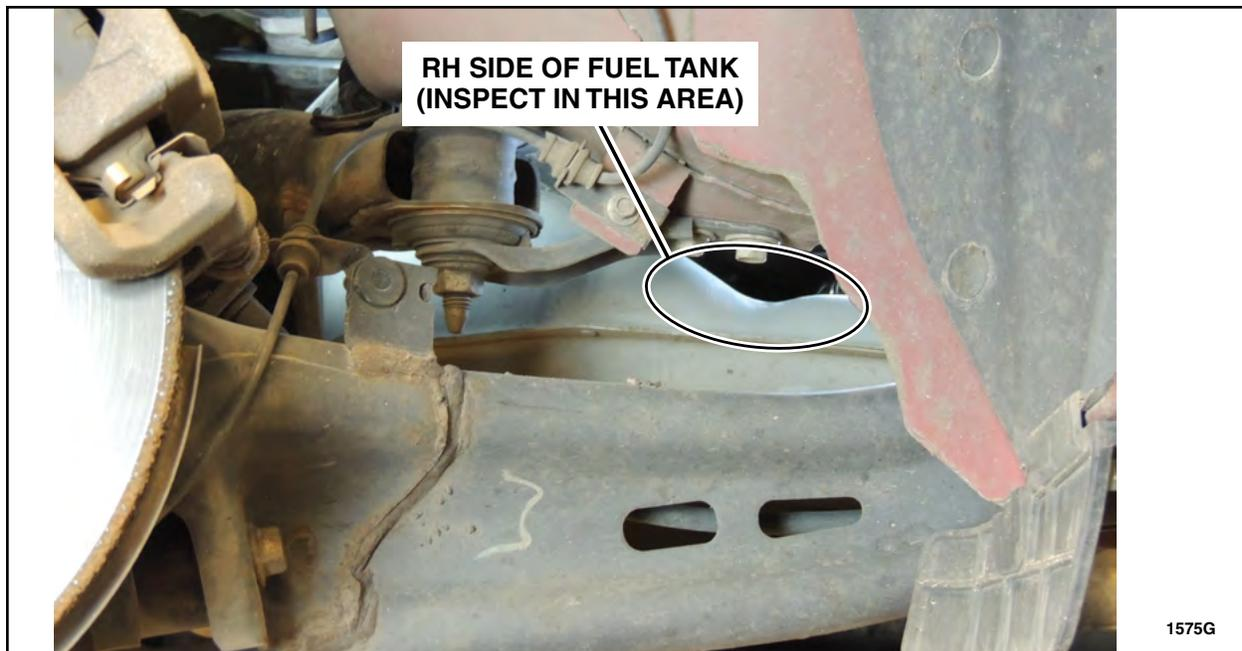

FIGURE 4
See Figure 4 on Page 5.
4. Check the top RH side of the fuel tank for signs of cracks. See Figures 4 and 5. Is cracking present?